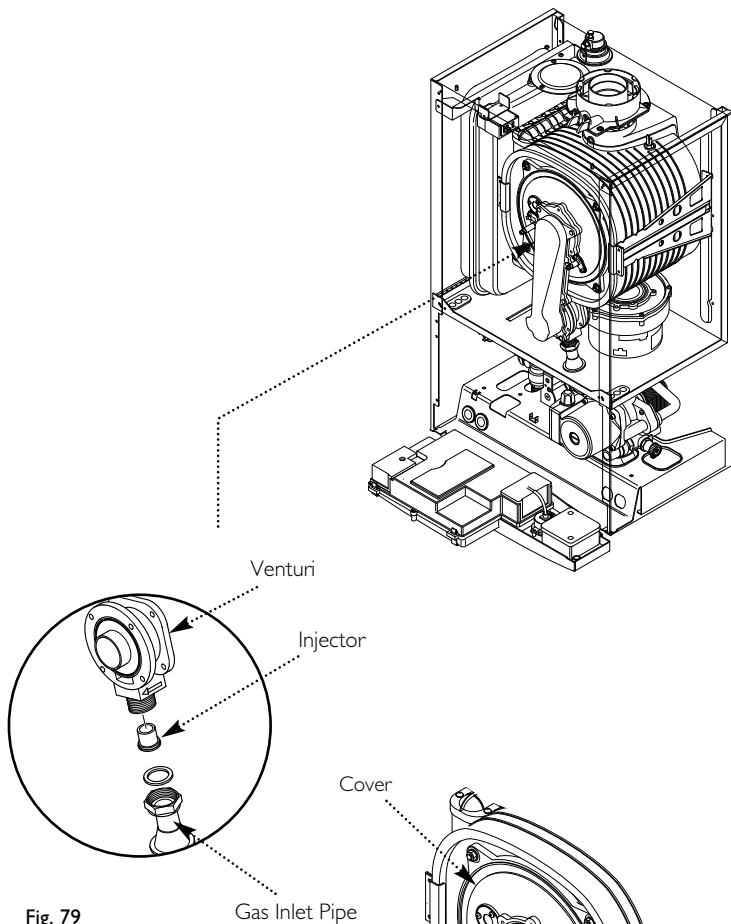

Fig. 79
### 14.3 Fan (Fig. 79)
1. Undo the nut on the gas inlet pipe to the venturi (Fig. 79) and pull the sensing pipe off the fan.